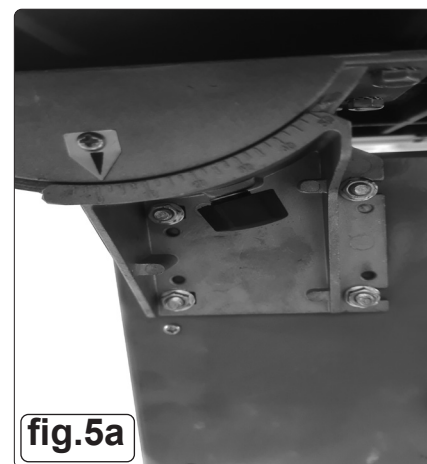

fig.5a
6.8.1. Loosen the knob(s) and adjust table to required angle using the scale as a guide. Tighten knob(s) when in required position.(fig.5a)